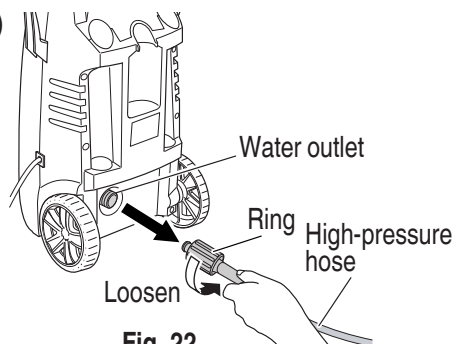

Fig. 22
3. Removing the high-pressure hose (Fig. 22)